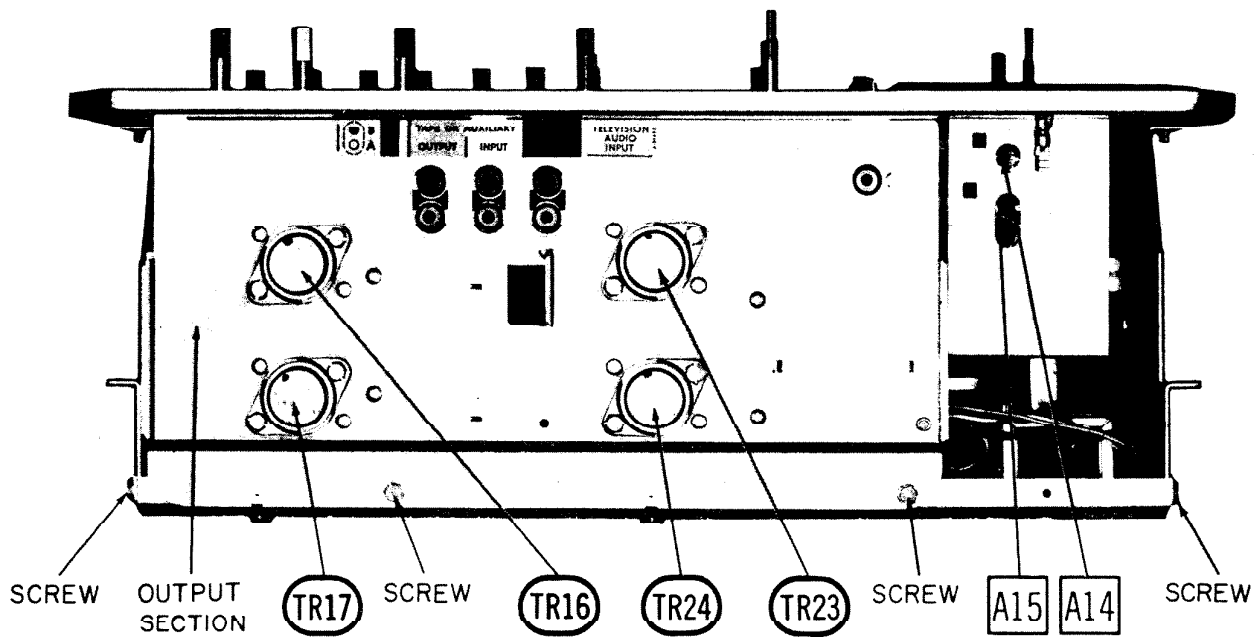
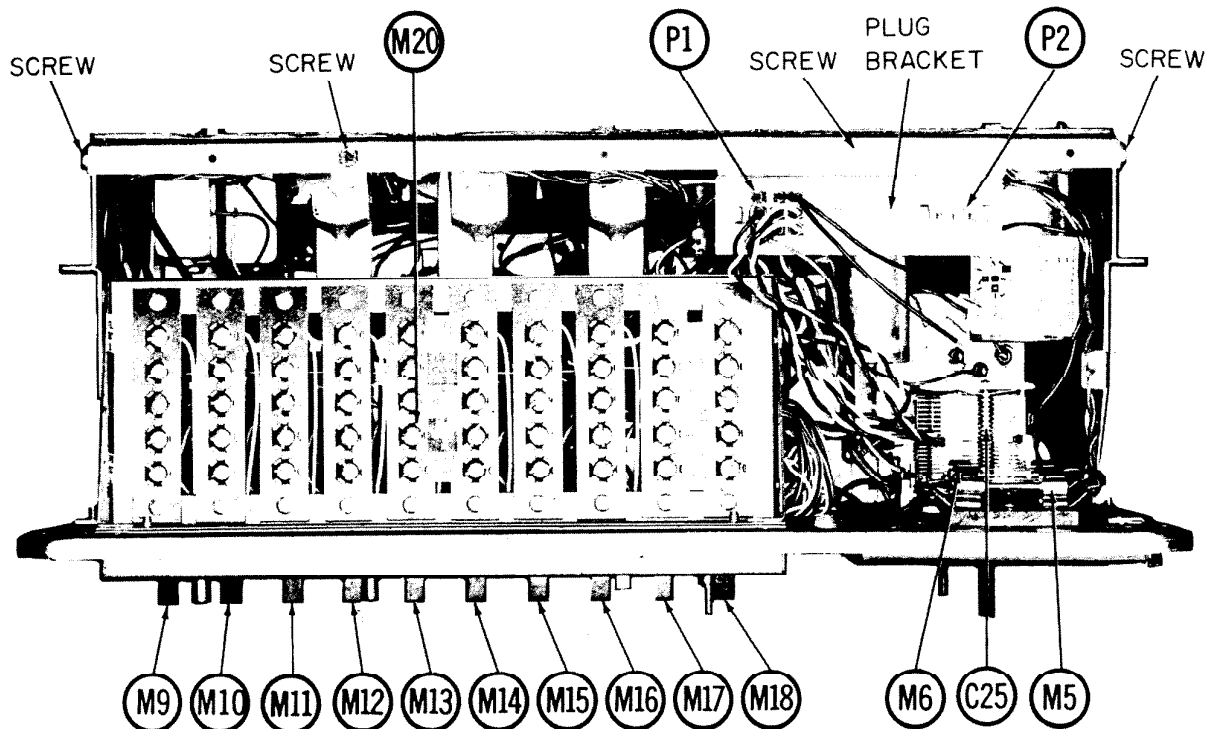

Fig. 3. Bottom view of master station.
Fig. 4. Top view of master station.
5. Loosen three (3) screws (Figs. 3 and 4) and remove screw holding plug bracket (Fig. 4) and remove protective shield over bottom of printed wiring board.
6. Remove two (2) screws (Fig. 3) then lift and remove output section from three slots in front plate.
7. Remove four (4) locknuts from controls and four (4) screws (Figs. 3 and 4) at corners of